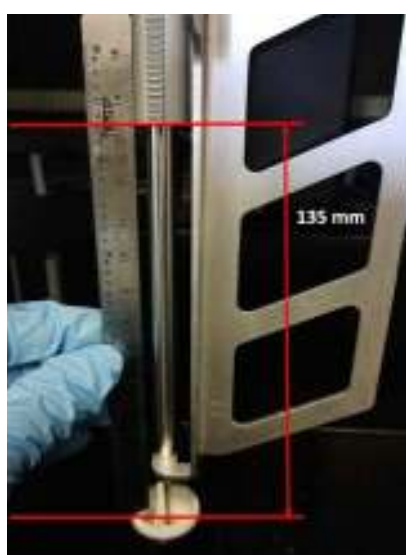

Figure 13-28: Wash station, Zstart
9. In order to correctly set the distance of 135mm, place the ruler as shown in Figure 13-28 and level your eyes with the lower edge of the gear rack, in order to avoid parallax effect when reading the ruler scale.